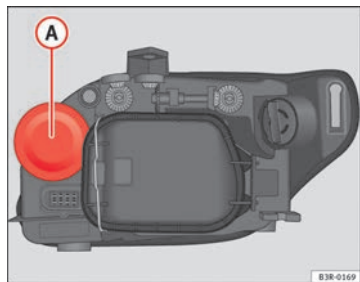

Fig. 202 Turn signal
- Pull the rubber cap ⇒ fig. 202 to remove it.